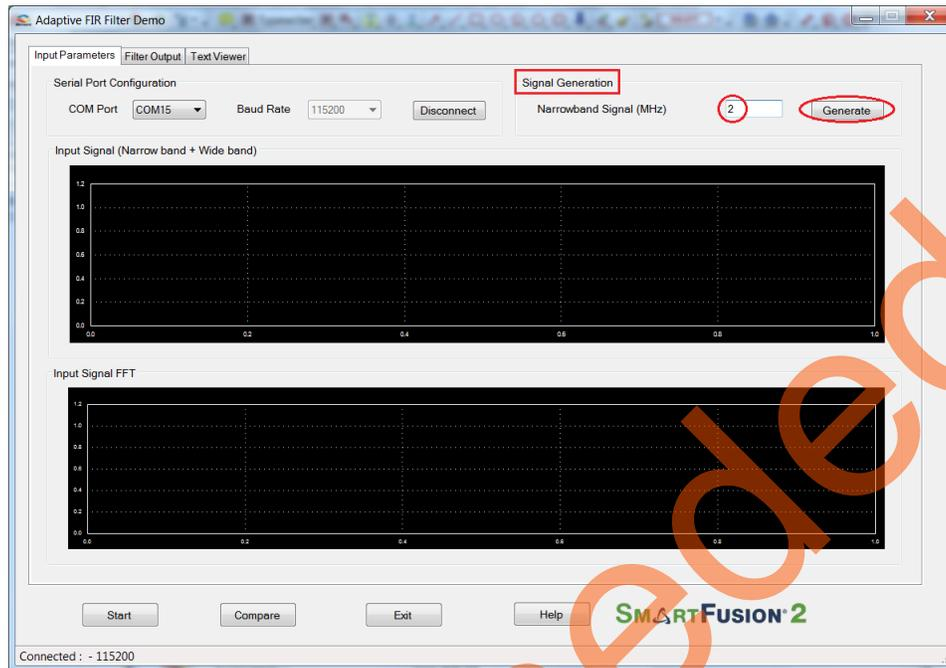

Figure 17 • Signal Generation
- Signal Generation:** Enter the narrowband signal frequency as 2 MHz (supported range is 1 MHz to 20 MHz) and click **Generate**. Refer to Figure 17.